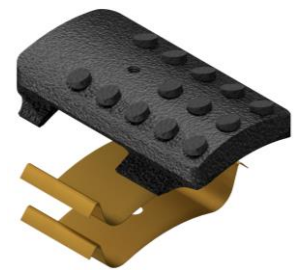

Fig. 3
- I-1.2) Screw pup joint (20) into flat top (1).
- I-1.3) Install o-rings (34) in o-ring grooves in top sub (10).
- I-1.4) Screw top sub (10) onto pup joint (20).
- I-1.5) Install feed through tube (3) and screw long string mandrel (2) into flat top (1).
- I-1.6.1) Place slip springs (15) onto upper slips (8) and screw button head cap screws (22) into upper slips (8) to secure slip springs (15).
- NOTE:** Install two (2 ea) springs per slip (Fig. 3).
- I-1.6.2) Install upper slip assemblies into upper slip body (6). Wedge slips outwards.
- I-1.6.3) Install upper slip body assembly onto long string mandrel (2) and feed through tube (3). Screw upper slip body (6) onto flat top (1).
- I-1.7) Install o-rings (32, 34) in o-ring grooves in upper cone (9).
- I-1.8) Install upper cone (9) onto inner mandrel (2) and feed through tube (3) and into upper slip body (6). Align threaded holes in upper cone (9) with slots in upper slip body (6).
- I-1.9) Screw cap screws (24) into upper cone (9). Remove wedges from slips.
- I-1.10) Screw shear screws (4) into upper slip body (6). Tighten until shear screws (4) contact upper cone (9). Back shear screws (4) out 1/4 turn.